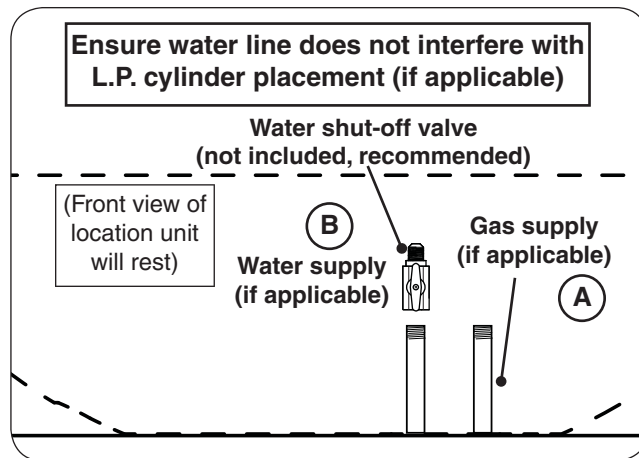

Fig. 21-1 Route gas and water supply (if applicable)
1. Route the gas supply into the area that the unit will rest over (see Fig. 21-1, A).
1. Plumb the water supply into the area that the unit will rest over (see Fig. 21-1, B).
Note: It is recommended that a water shut-off valve (not included) be attached to the water supply line. It can be installed remotely or at the end of the water supply line. See Fig. 21-1, B for an example.